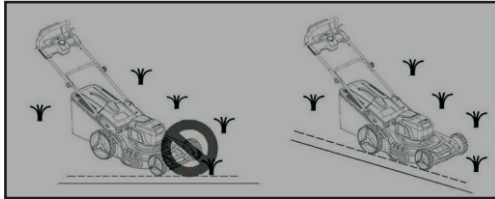

Fig. 11B
4. Never lift the rear of the mower while starting the motor or during normal operation. (Fig.11B)